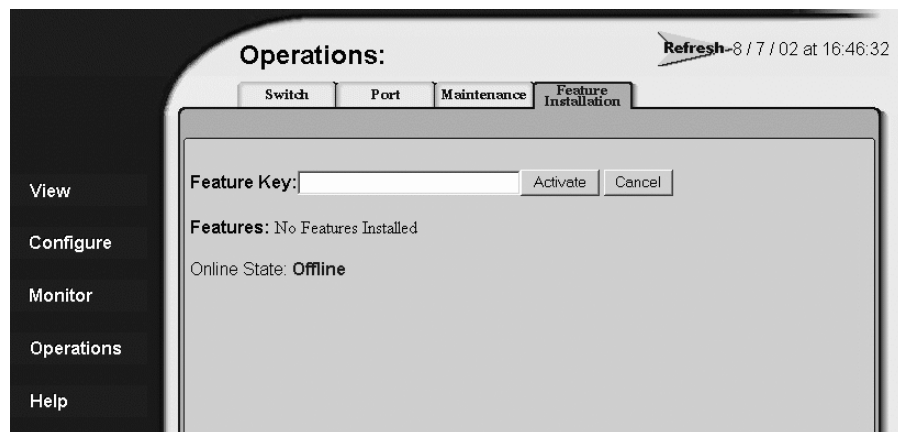

Figure 17: Feature Installation tab view
2. Click the **Feature Installation** tab. The **Feature Installation** tab view displays (Figure 17).